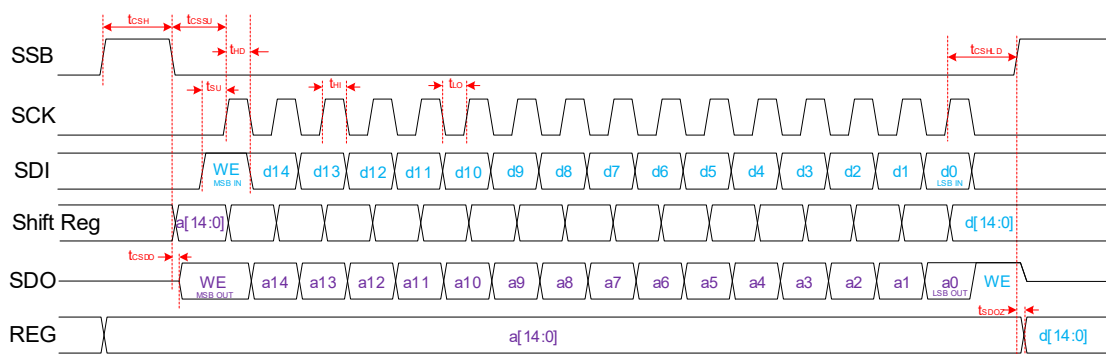
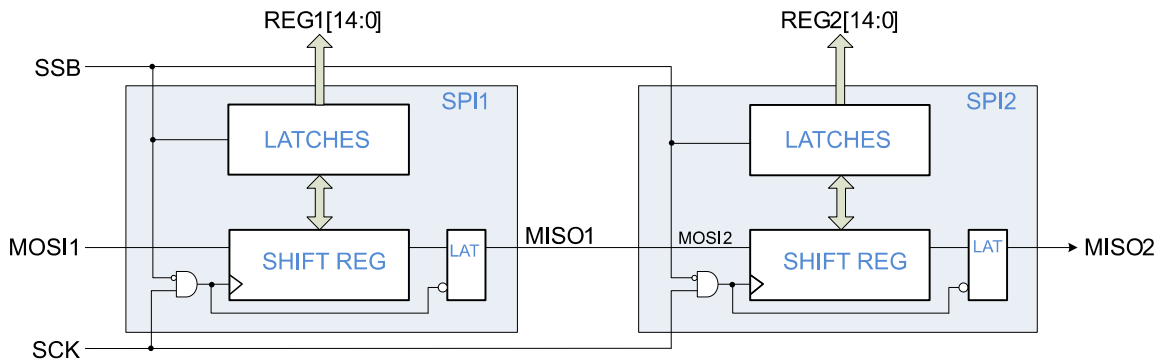
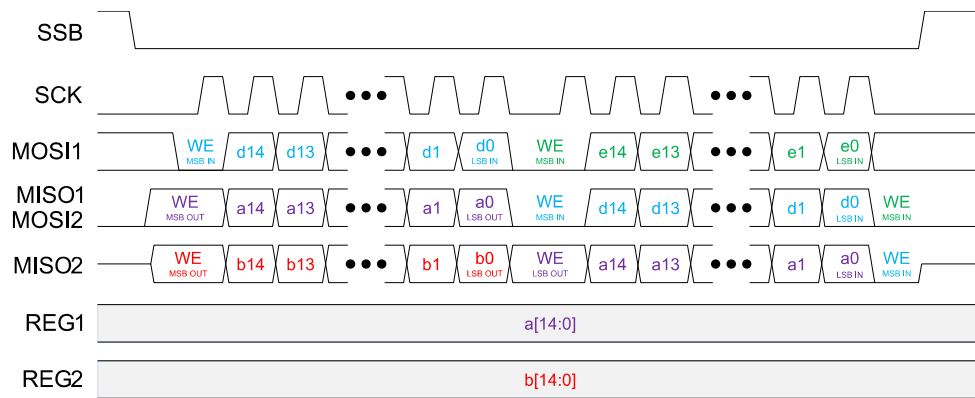
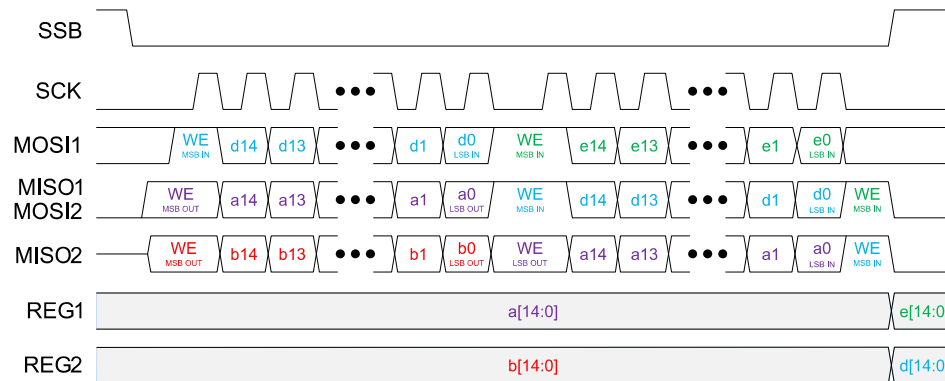

Figure 9. SPI Timing Diagram
Figure 12. SPI with 2 ICs Daisy-Chained
Figure 13. SPI Read Only (2 ICs Daisy-chained)
Figure 14. SPI Read & Write (2 ICs Daisy-Chained)
MODE = 0, activates the 16-Bit Serial Peripheral Interface (SPI) module for operation. Multiple devices can be daisy-chained to drive multiple ICs using one SPI bus (see Daisy Chain Operation, Figure 12, Figure 13, and Figure 14). The SPI works at any frequency up to a maximum of 33 MHz and may operate at significantly lower frequencies if the logic signals adhere to the data setup and hold requirements.
SPI timing diagrams are provided in Figure 9 through Figure 14. In SPI mode, data transmission starts when SSB goes Low, causing the Target to output the Most Significant Bit (MSB) of data to the SDO (MISO) pin. Data transfer from Host to Target takes place during the rising edge of the clock (SCK), which is idle when SSB is High. This mode of operation requires data for Host and Target to be present on SDI (MOSI) before the rising edge of the clock (defining SDI to SCK setup time). Data is pushed out of the SDO (MISO) pin during the falling edge of the clock. After the first 16-bit transaction, Host writes the latest data (DN) to Target, while Target passes its previous (DN-1) stored data to the Host. Data is latched into the internal registers at the rising edge of SSB, if WR\_EN = 1.
Daisy chaining the ICs is permitted and involves connecting the MISO of one chip to the MOSI of the next chip in the chain, as shown in Figure 12. SPI timing diagrams with daisy-chained devices are provided in Figure 13 and Figure 14.